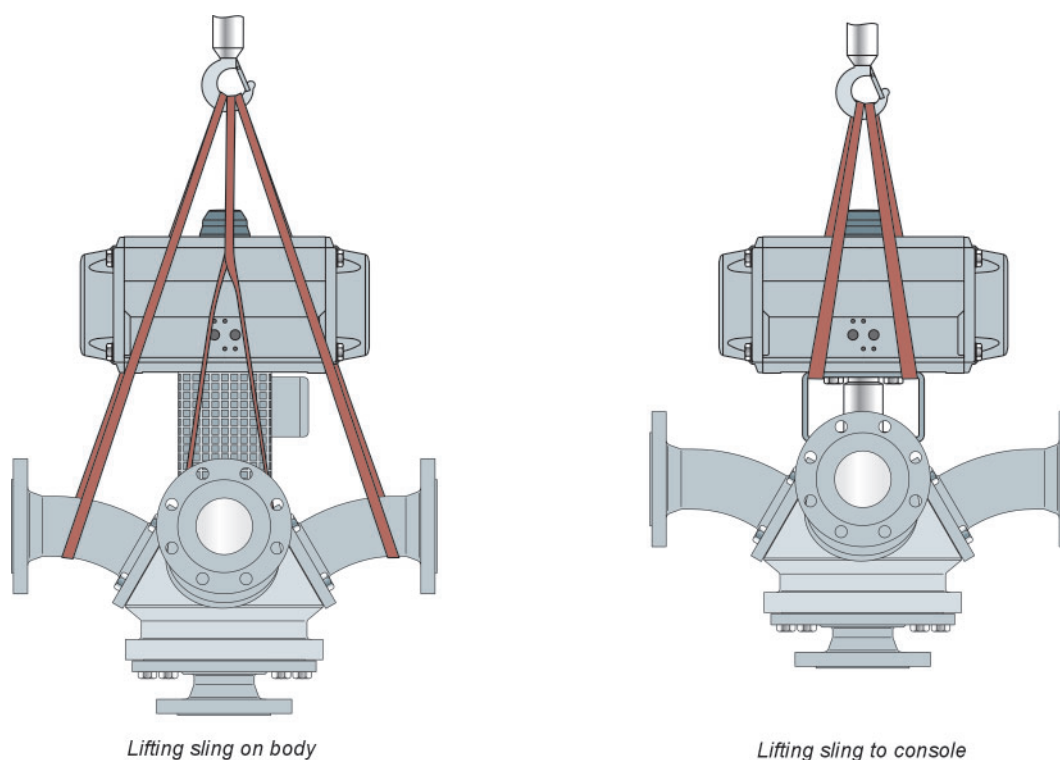

Fig. 4-1: Lifting points on the diverting valve
- ⇒ Use a hook with a safety clamp as the suspension element so that the sling cannot slip off the hook during lifting and transport, see Fig. 4-1.
- ⇒ Fasten a lifting sling to each flange of the housing and on the suspension element (e.g. hook) of the crane or forklift, see Fig. 4-1. When doing so, ensure the safety, bearing capacity and length of the lifting slings
- ⇒ Fasten a lifting sling to the bracket and the suspension element (e.g. hook) of the crane or forklift, see Fig. 4-1. When doing so, ensure the safety, bearing capacity and length of the lifting slings.